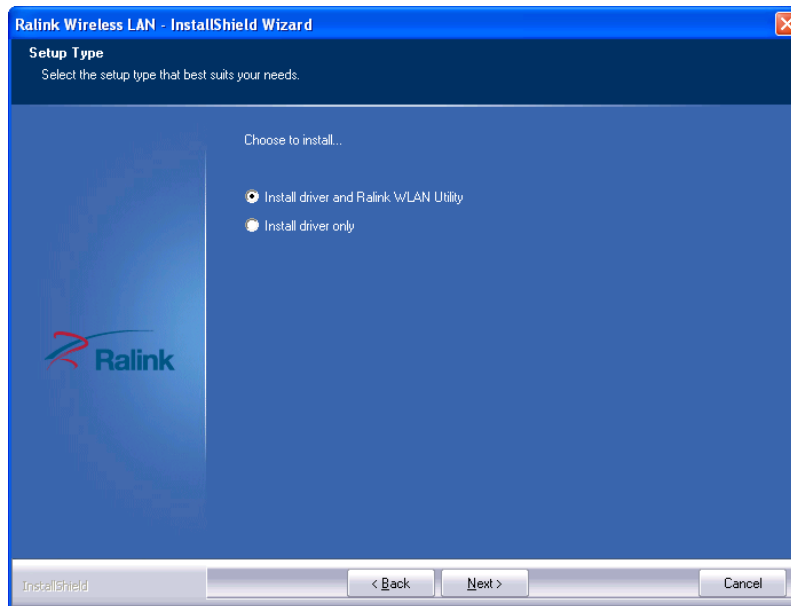

Figure 8-35: Setup Type
Step 6: The **Setup Type** screen in **Figure 8-35** appears.